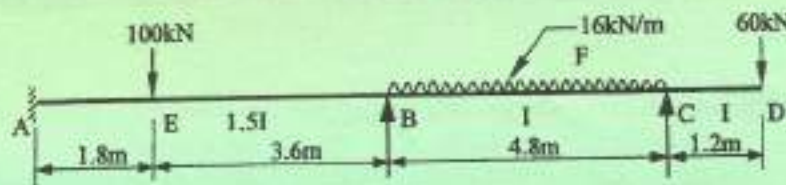

Fig 3
3. Using the moment distribution method analyse the beam shown in Figure 3 and hence sketch the bending moment diagram indicating the critical values.